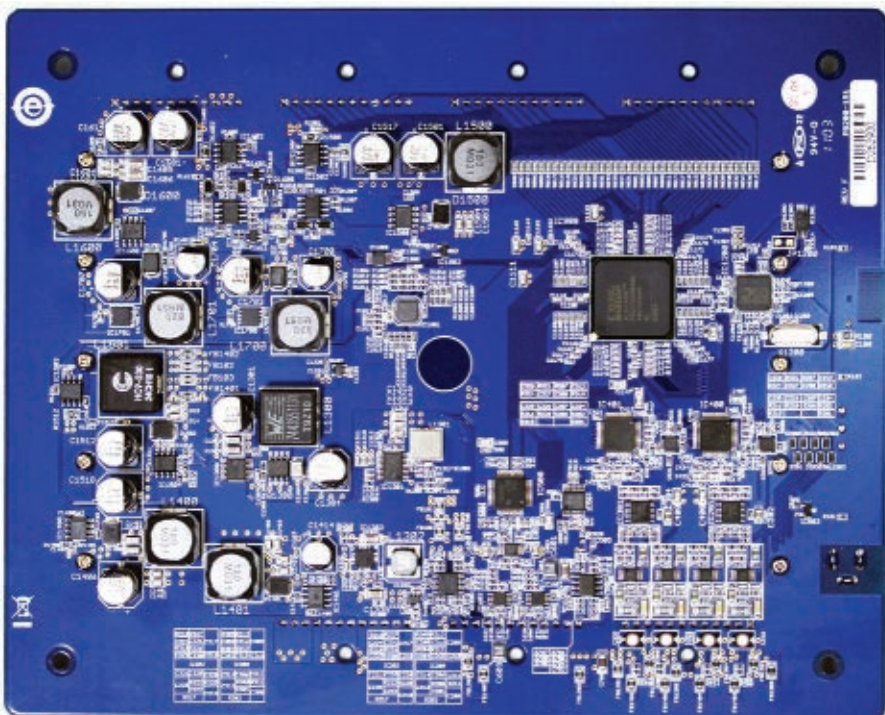
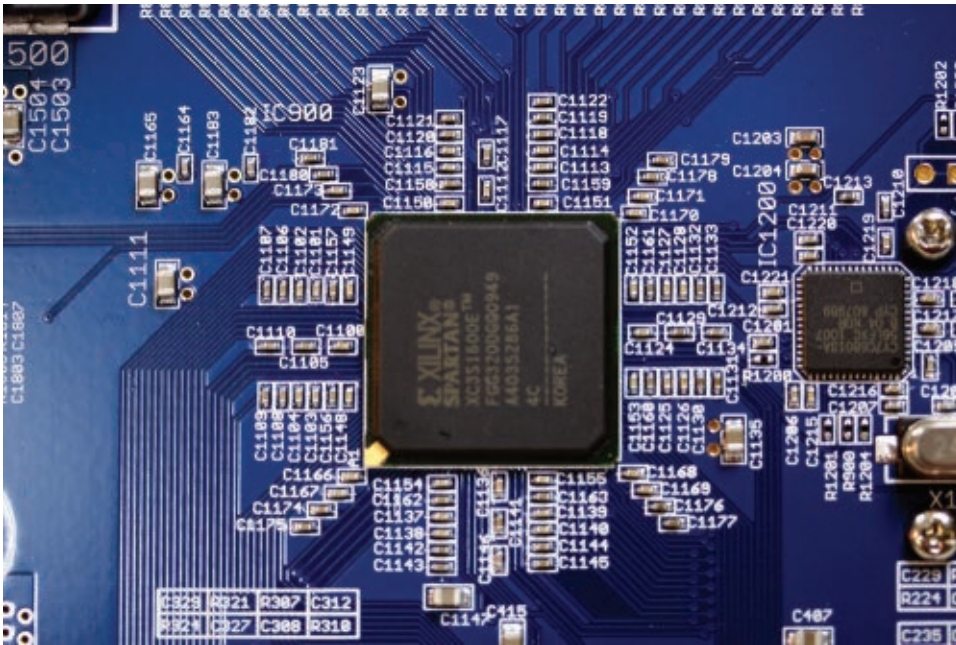

FIGURE 3. Underside of the Electronics Explorer board.
FIGURE 4. TI Xilinx Spartan FPGA processor.
■ **FIGURE 3.**
have a 12.00V DC reference available (or a variable voltage source which can be adjusted to precisely 12.00V DC output), you may want to build one using the four extra components included with your kit. Build the circuit in **Figure 3** using the components as shown. Perfboard, breadboard, or wirewrap construction is fine.
The underside of the board is where the action is, as shown in **Figure 3**. The big chip is a TI Xilinx Spartan FPGA, shown in detail in **Figure 4**. Check out www.xilinx.com if you want to learn about this FPGA processor. To take the photo, I removed the protective plastic shield from the bottom of the board. The shield is a good idea, given that it's likely a wandering screwdriver or pair of pliers will eventually find their way under the board.